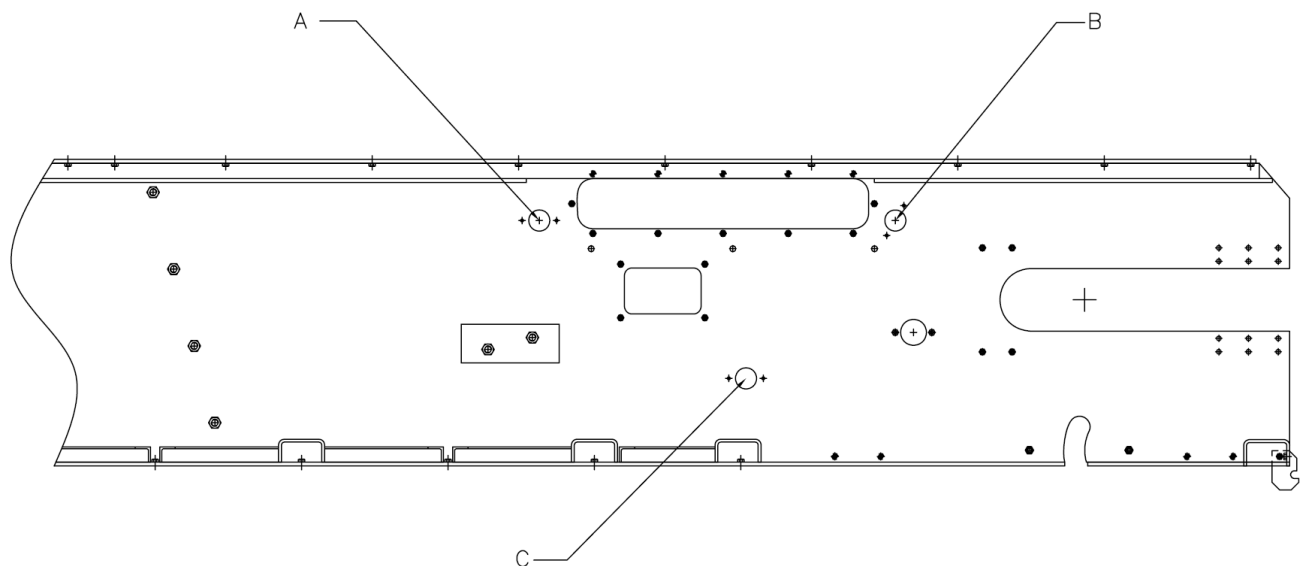

Figure 4-6. Securing Holes for Chain Link Replacement
2. Line up the chain link roller below the link you will be replacing with securing hole "A" in the frame as shown in figure 4-6.
3. Remove the two side inspection hatch covers. If necessary, readjust the chain link you wish to replace to make sure it is centered in the opening of the side inspection hatch and that the chain roller is lined up with the securing hole. Refer to figure 4-6.